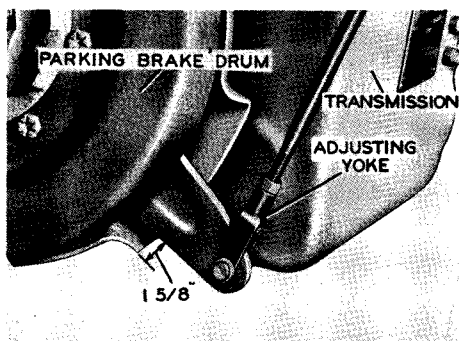

Figure 103
To adjust the parking brake, disconnect the brake arm and yoke. By means of the adjustable yoke, shorten the brake linkage. Figure 103.
1. Disconnect the adjusting yoke from the brake lever, Figure 103.